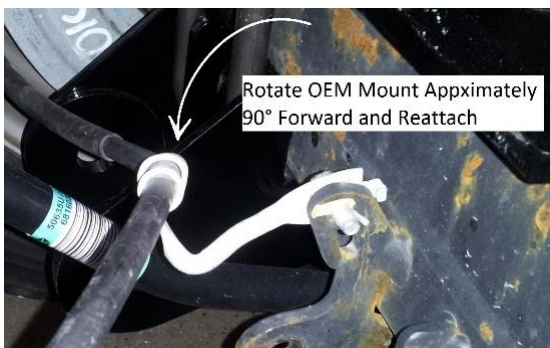

Figure 7: Rotated OEM Pkg Brake Cable Mount
1. Relocate Passenger parking brake cable mounted in front of axle as shown in Figure 7.